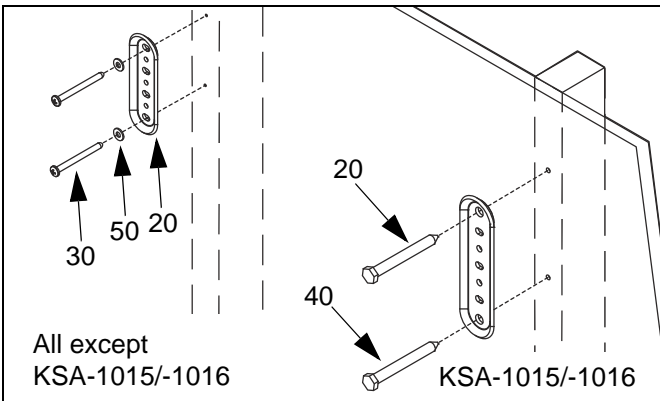

Figure 1: Install Wall Bracket
- Determine location for mount keeping in mind display size, extension, height adjustment (if applicable), and pitch/roll requirements. Bracket (20) **MUST** be installed into wood stud.
- Using bracket (20) as a template, drill two pilot holes through top and bottom holes of bracket (20) into wall structure (See Figure 1):
- Install bracket (20) (See Figure 1):
- All Except KSA-1015/-1016: Using Phillips screwdriver, install screws (30) through washers (50), plate (20), and drywall into wood stud. Ensure bracket (20) is vertical, then tighten screws (30).
- KSA-1015/-1016 ONLY: Using 9/16" wrench, install screws (40) through plate (20) and drywall into wood stud. Tighten screws (40).